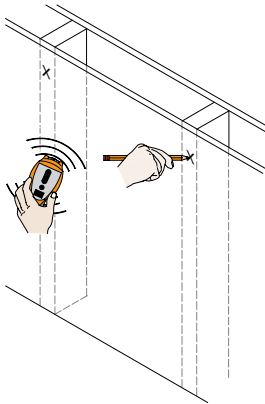

Figure 5. Marking the Center of the Wood Studs
2. Use a pencil (not included) to mark the exact center of each of the wall studs (Figure 5).